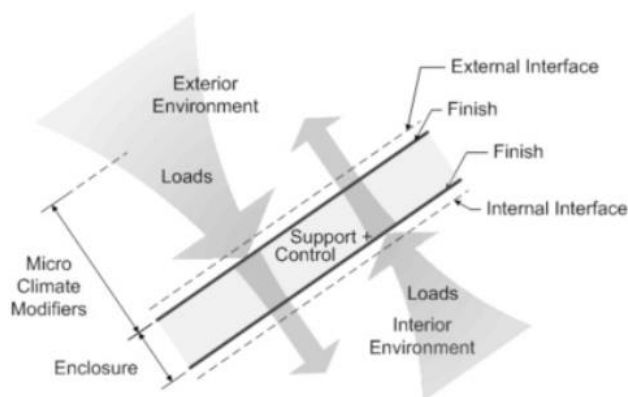

Fig. 1 Building enclosure and its functions (1)
(1) http://buildingscience.com/documents/digests/bsd-018-the-building-enclosure_revised
(2) http://buildingscience.com/documents/digests/bsd-018-the-building-enclosure_revised Please check fig. 1, 2 and 3